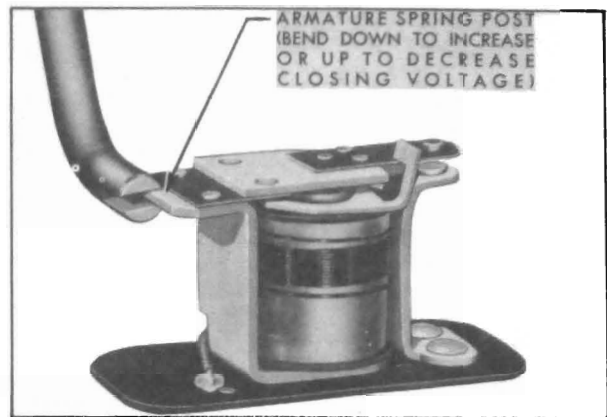

Figure 10-37—Relay Closing Voltage Adjustment
6. Test relay closing voltage as previously described in subparagraph a, step 5. If voltage is not within specified limits, bend armature spring post down to increase spring tension and closing voltage, or bend up to decrease voltage. See figure 10-37. Recheck closing voltage after each adjustment.